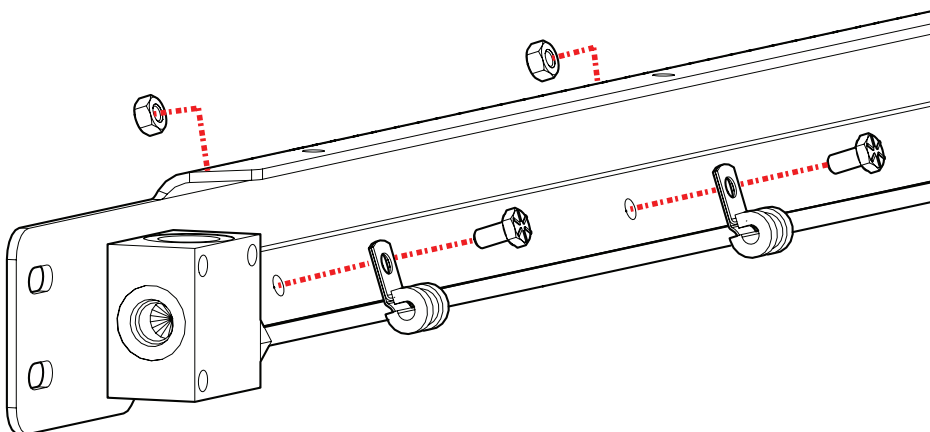

Figure 19: Install the bolts, nuts, and clamps that secure the trigger line to the rail.
19. Install the bolt, nut, and loom clamp that secures the trigger line to the rail (Figure 19). Install all original bolts, nuts, and clamps.